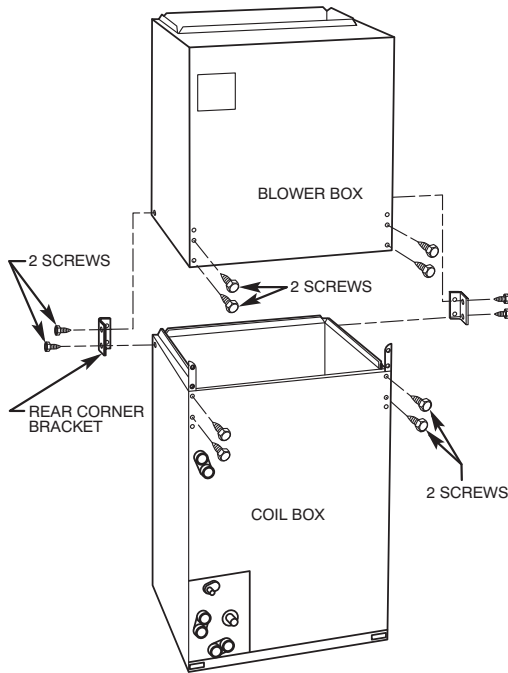

Fig. 5 - Modular Unit Assembly
1. Remove blower and coil access panels and fitting panel. (See Fig. 5.)
4. Lay fan coil on its right side and reinstall coil assembly with condensate pan down. (See Fig. 5.)